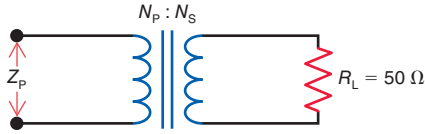

Figure 18-34
- 18.25** In Fig. 18-34, calculate the primary impedance, Z_p , for a turns ratio $\frac{N_p}{N_s}$ of